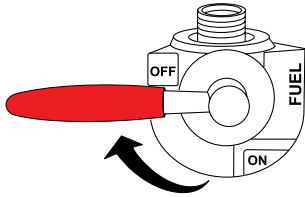

Figure 34. Fuel Tank Valve Lever (OFF)
1. Place the fuel tank ON/OFF valve lever (Figure 34) in the **OFF** position.